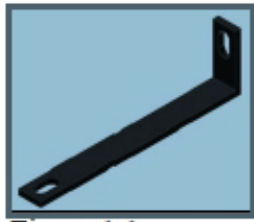
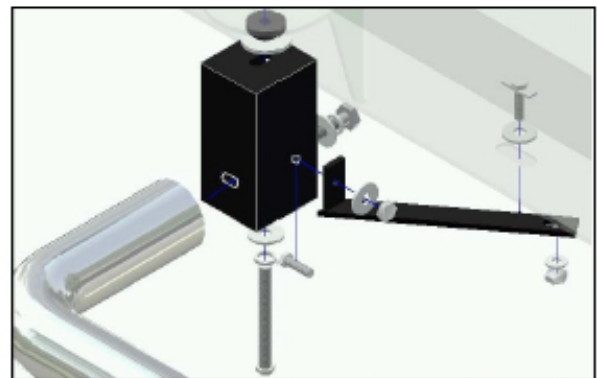

Figure 1.1 –
Figure 1.5 – 2500/3500 Front Mount Assembly
**7. 2500/3500 Series Ram 2002-05** select brackets from parts list above, (discard 1500 & 2006-09.2500/3500 brace brackets not needed). (see Figure 1.1) Attach Brace Bracket to side of mountbracket using (1) 10mm x 30mm bolt, (2) 10mm flat washers, (1) 10mm lock washer and (1)10mm nut, (see Fig 1.5) secure Bolt Plate to bracket with (1) 10mm flat washer, (1) 10mm lockwasher and (1) 10mm nut. Snug but do not tighten hardware at this time.
5. Attach Front Brace Bracket to side of Front Mount Bracket using (1) M10X40mm bolt, (2) M10 flat washers, and (1) M10 hex nut ,(1) lock washer (see Figure 1.5). Place (1) 3/8" x 1 ." bolt with welded strap and (1) M12 flat washer through cut out in frame rail. Line up slot on the long arm of the Brace Bracket with this bolt and secure using (1) M10 flat washer and (1) M10 lock nut,(1) lock washer. Hand tighten.
6. Attach Side Tube to Front and Rear Brackets using (1) M12 – 1.75 x 60mm HEX HEAD BOLT , (1) M12 split lock washer and (1) M12 flat washer for each bracket, and hand tighten. Torque M12 bolts first to